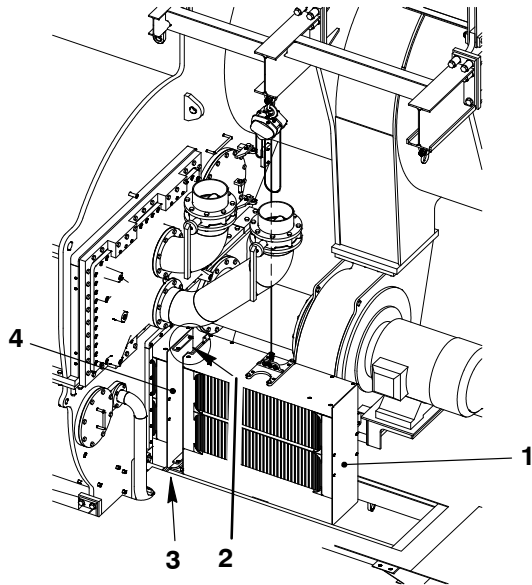
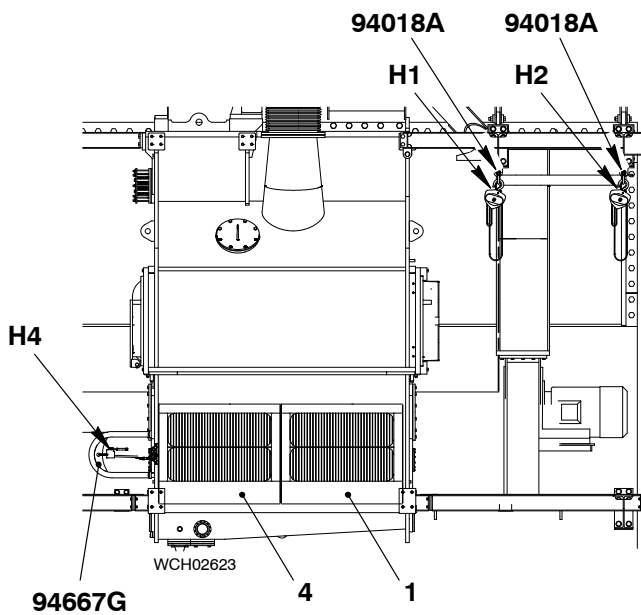

Fig. 14
Fig. 15
- 2) Align the front and rear water separators (1 and 4, Fig. 14).
- 3) Attach the water separators (1 and 4) together with the two top screws (2) and two bottom screws (3).
- 6) Remove the tool (94667) from the water separator (1).
- 7) Operate the manual ratchet (H4, Fig. 15) to pull the water separators (1, 4) fully into the receiver.